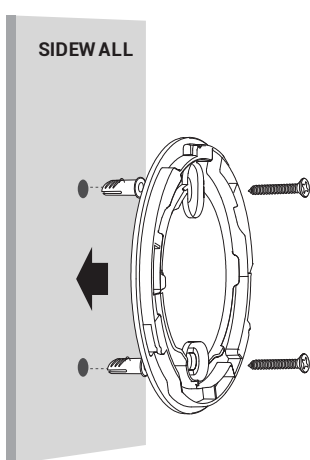

**Figure 4**
- 3.** Drill the holes at the marks with a 3/16" (5 mm) drill bit. Insert the anchor plugs and screw the mounting bracket to the ceiling or wall using the screws provided. (See Figure 4)